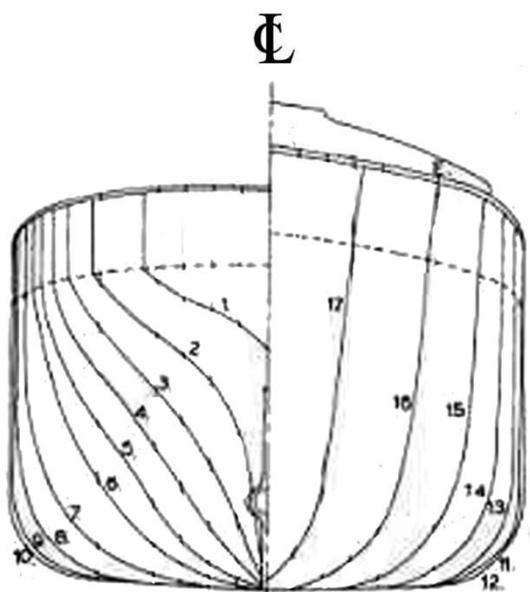
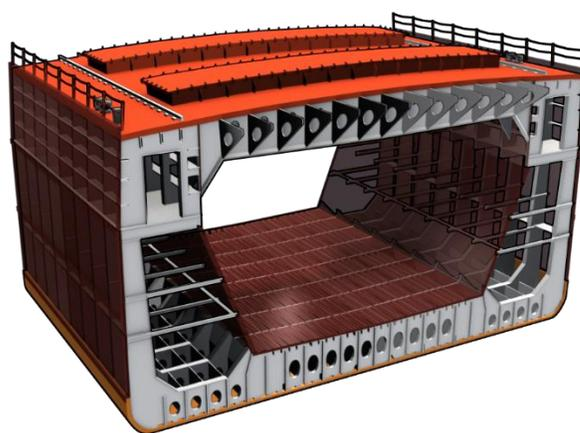
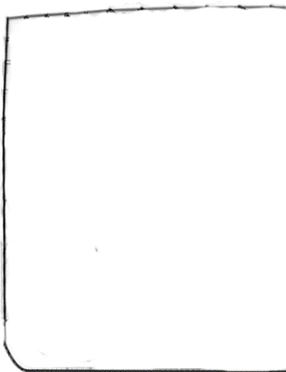

Figure 1. Body Plan for a Clyde puffer.
Figure 2. Section through a ship's hull.
Figure 3. Half of a Body plan for a hull section.
The body plan for the hull of the Clyde puffer is shown in Figure 1. On this one diagram is shown the complete shape of the hull. The vertical line down the middle represents the bow-to-stern centreline of the hull. The shape of the hull from midships to the bow is shown on the right side of this diagram, and the shape from midships to the stern is shown on the left side. (You can tell the left is the stern because it has a hole for the propeller shaft.) This is actually sufficient to make a complete hull.
To understand what the body plan shows, imagine you have the finished hull. Then at different locations along the length you slice it into sections. Figure 2 shows such a section for a ship's hull.
Now take the section of Figure 2 and cut it in half on the centreline, turn the open end towards you, and trace the outer edge of the face. You will get an outline as in Figure 3. This process is repeated for all the sections you cut; they are numbered from stern to bow and then all drawn onto one diagram with a common centreline, as shown in Figure 1.
4. On figures 1 and 5, the position of the deck edge is shown by the dotted line that runs across from side to side. This shows where the deck meets the hull side at each rib.